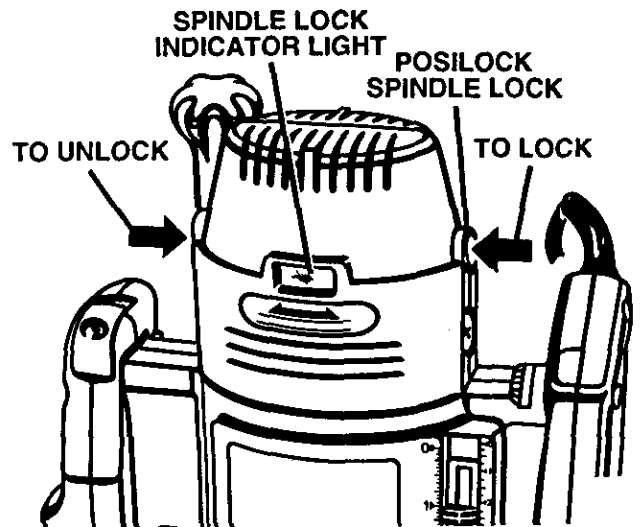

Fig. 3
See Figures 3, 4, and 5.
- Place the posilock spindle lock into lock position. See Figure 3. **Note:** If spindle does not lock, turn collet nut with wrench, applying pressure at the same time to the spindle lock with your thumb or finger. When lock mechanism engages with notch in spindle, spindle lock will slide into lock position.